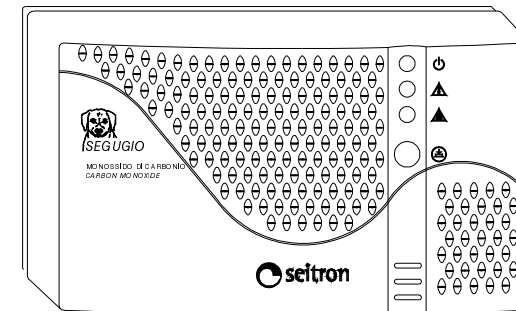

Fig. 1
Carbon monoxide (CO) is a gas whose high toxicity (it can have severe consequences even when inhaled in very small quantities) is added to an extreme danger because it is not perceptible by people being colourless and odorless. The SEGUGIO (Fig. 1) detector is a microprocessor based electronic device that answers all needs of safety in those cases in which there can be CO production (e.g. where heating or cooking appliances can have uneven combustions).